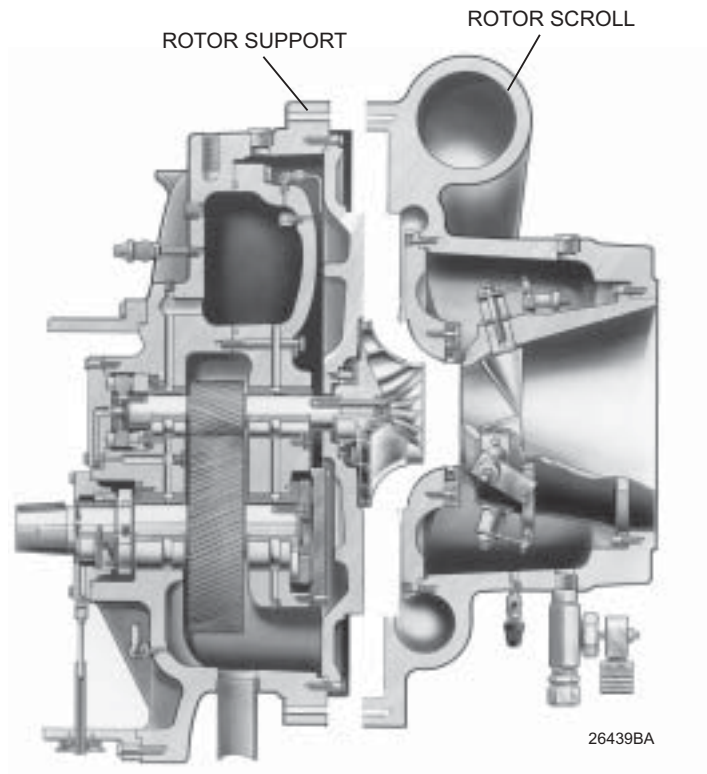

FIG. 17 – DISASSEMBLY OF ROTOR SUPPORT FROM THE ROTOR SCROLL
8. Use (3) of the cap screws as jacking screws in the tapped holes provided to loosen the rotor support from the rotor scroll (see FIG. 17). Carefully pull the rotor support out of the rotor scroll. Rotate the shaft by hand when removing the rotor support to prevent damage to the impeller inlet seal ring.